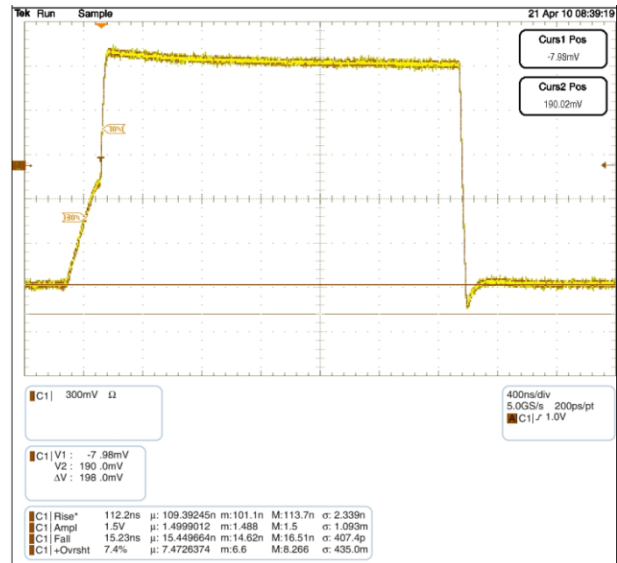

Figure 5. Waveform C: 600 pF, Total R_{P_U}: 2.2 kΩ
the Npassgates act as a low-resistive short between both ports until either of the port’s V_{CC}/2 thresholds are reached. After the RC time constant has reached the V_{CC}/2 threshold of either port, the port’s edge detector triggers both dynamic drivers to drive their respective ports in the LOW-to-HIGH (LH) direction, accelerating the rising edge. The resulting rise time resembles the scope shot in Figure 5. Effectively, two distinct slew rates appear in rise time. The first slew rate (slower) is the RC time constant of the bus. The second slew rate (much faster) is the dynamic driver accelerating the edge.